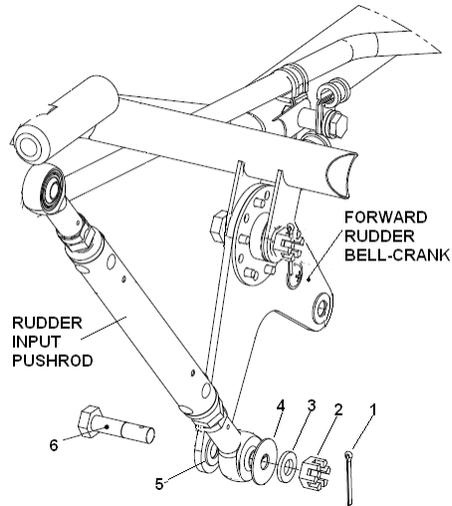

Figure 27-33 Exploded View of the Input Pushrod to Forward Bell-crank
3. See Figure 27-33. Remove split pin (1) and discard. Remove the nut (2), washer (3), spacer (4 and 5), and bolt (6). Note positions of washers. Separate the forward rudder pushrod from forward rudder bell-crank.